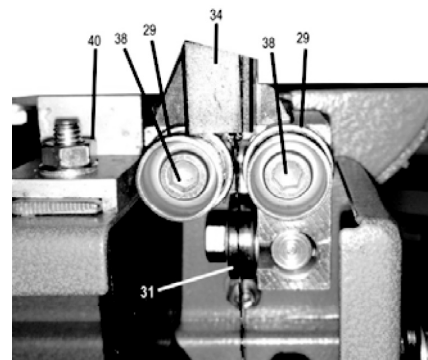

Fig. 16
16. LOWER SAW BLADE GUIDE ADJUSTMENT (Fig. 16)
- A support bearing (31) Fig.16 (which support the blade from the back),
- Two wheels (29) Fig.16 (which guide the blade sideways).